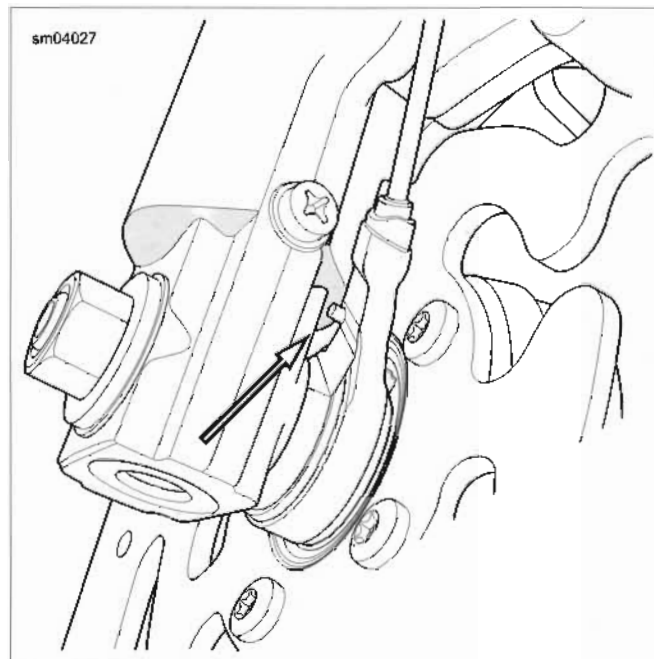

Figure 7-92. Front Wheel Speed Sensor Index Pin (ABS Models)
2. Secure front wheel. See 2.4 FRONT WHEEL. Be sure to rotate front wheel speed sensor until index pin makes contact with shoulder on fork slider as shown in Figure 7-92.